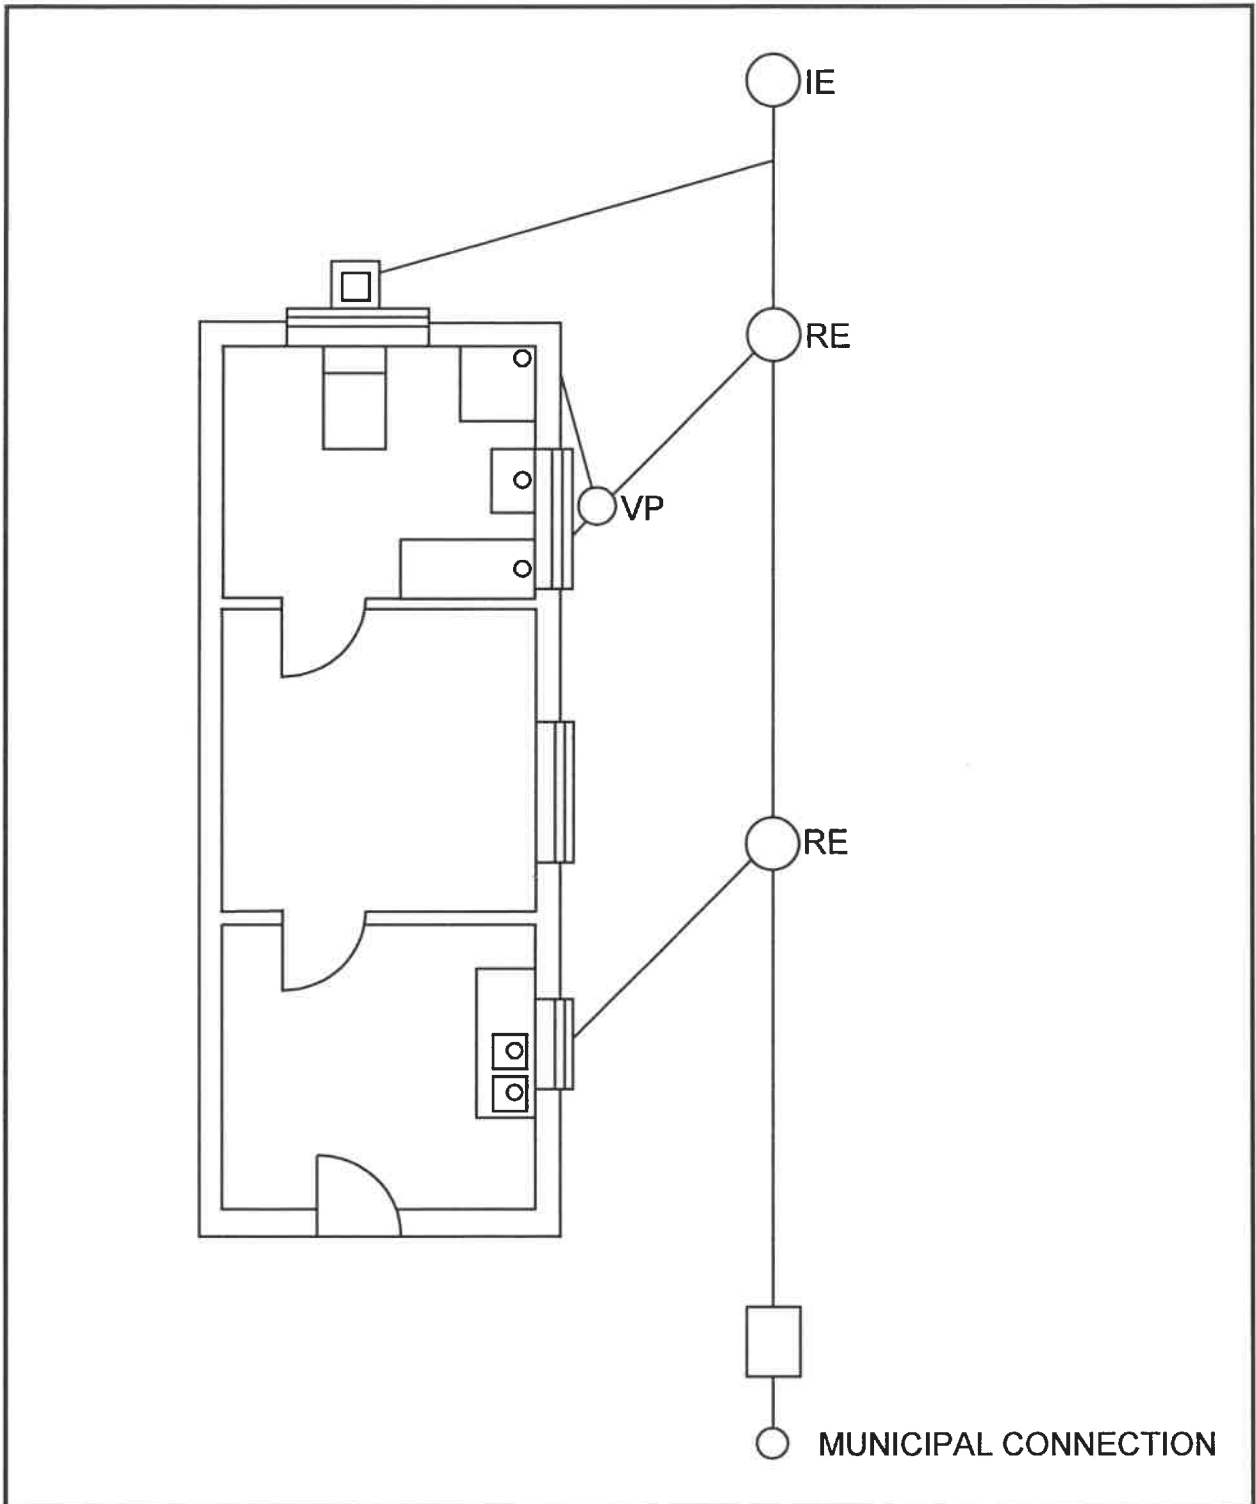

FIGURE 6.8
6.8 FIGURE 6.8 shows an incorrectly drawn sewerage plan of a dwelling. Use ANSWER SHEET 6.8 to design and draw a sewerage plan using correct drainage principles.